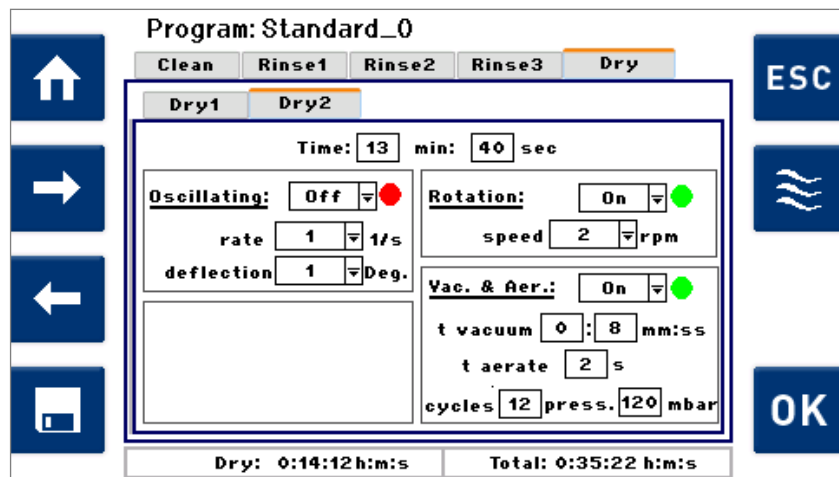

Fig.16.6 Screenshot of the options for *Dry2*.
Under consideration of the elementary physical boundary conditions of the vacuum drying described above, selection of the vacuum drying parameters, adjusted for the respective drying task, of the sequence Dry2 (*Fig. 16.6*) using Expert Mode is recommended.
The programmable vacuum drying parameters in the sequence *Dry2* (*Fig. 16.6* bottom right) determine the
- further duration of the evacuation, measured from reaching the specified pressure (8 seconds, 120 mbar in *Fig. 16.6*), with which even lower pressures on the pressure-time curve  $p(t)$  in the cleaning chamber are reached when the vacuum pump is running,
- duration of the re-aeration by opening the vent valve of the cleaning chamber for the ambient normal pressure (2 seconds in *Fig. 16.6*) while the vacuum pump continues running (for the purpose of maintaining the flow of the supported vapour mist extraction for the cleaning chamber),
- number of repetitions of this cycle of evacuation and re-aeration (12 times in *Fig. 16.6*).